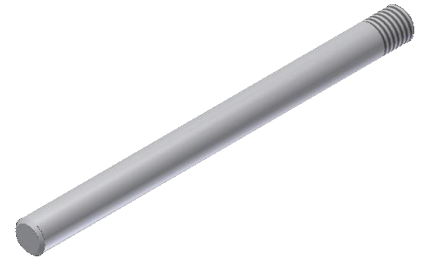

Fig. 15: Mallet Handle
7. Click on *Thread* in the toolbar. You may need to uncheck Full Length in the Thread window. Change the length of the thread to .675" and click on one end of the handle to match the hole in the Mallet Head. See **Fig. 15**.